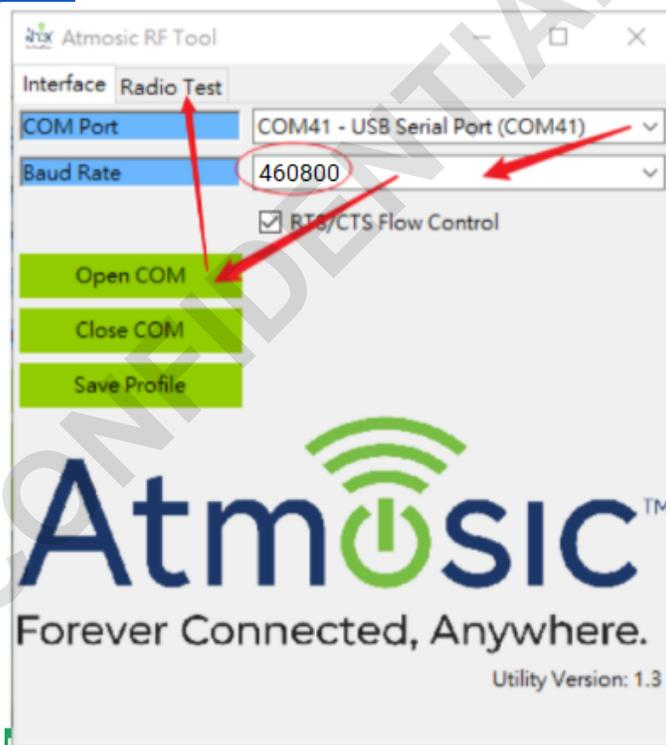

Figure 5 - RF Tool Interface Setting
- Figure 5 - RF Tool Interface Setting
Select the correct baud rate for the COM port and kit. The default baud rate is 460800 bps. Click "Open COM" to connect to the DUT. Then click the "Radio Test" item to enter the parameter setting windows as Figure 5.